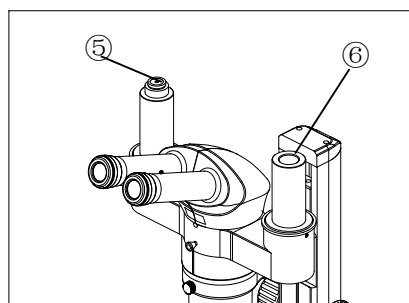
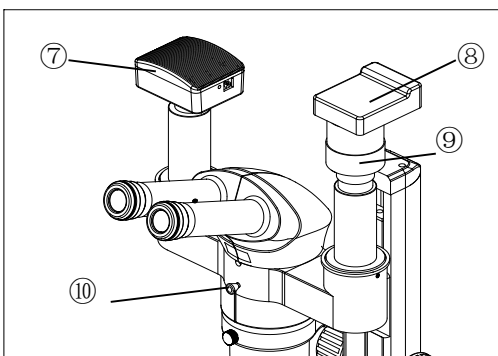

Fig.18
Fig.19
1. Loose the bolt (1) with provided hex wrench and remove the binocular head (4) away from the zoom body.
2. Mount the light splitter unit (3) onto the zoom body and fix it with bolt (1).
3. Mount binocular head (4) onto the light splitter unit with bolt (2), as shown in Fig. 18.
4. Mount the camera head (7) into the C mount (5) (both 1× and 0.5× available) of the light splitter unit. Mount the adapter (9) onto the transfer tube (6) on the splitter unit, as shown in Figure 18 and figure 19.
Pull out the light switching lever ⑩ to open the light path, as in figure 19.